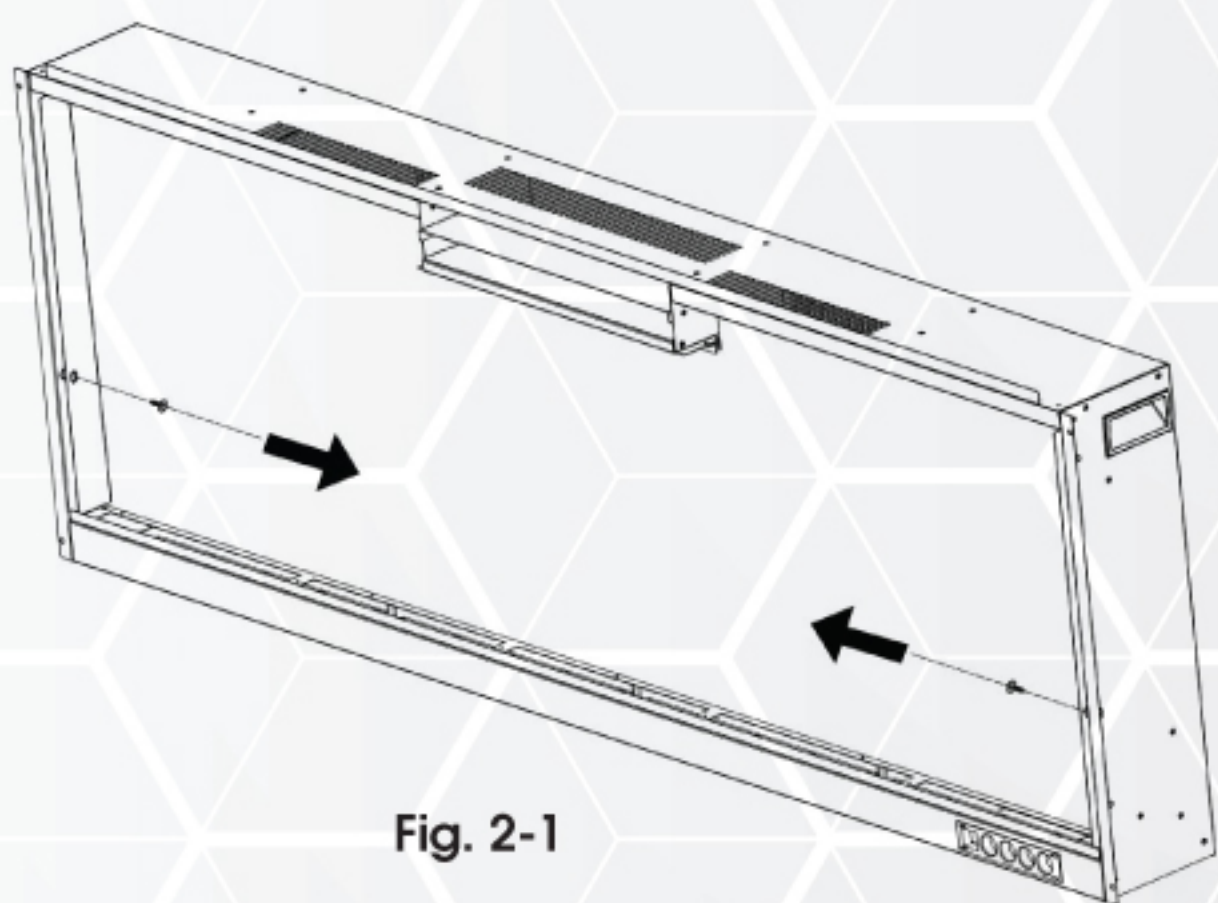

Fig. 2-1
- Take off the screws (1 per side) from the sides of the fireplace. Set the screws aside (Fig. 2-1)